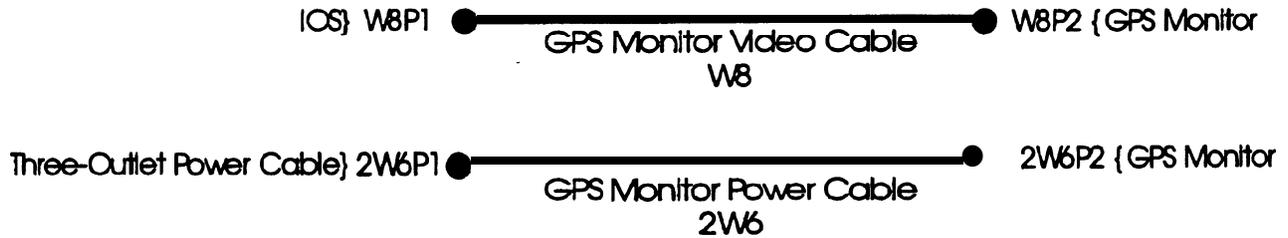

Figure 2-65. GPS Monitor Wire Diagrams
- f. Use Figure 2-65 as a guide to make the following monitor cable connections: